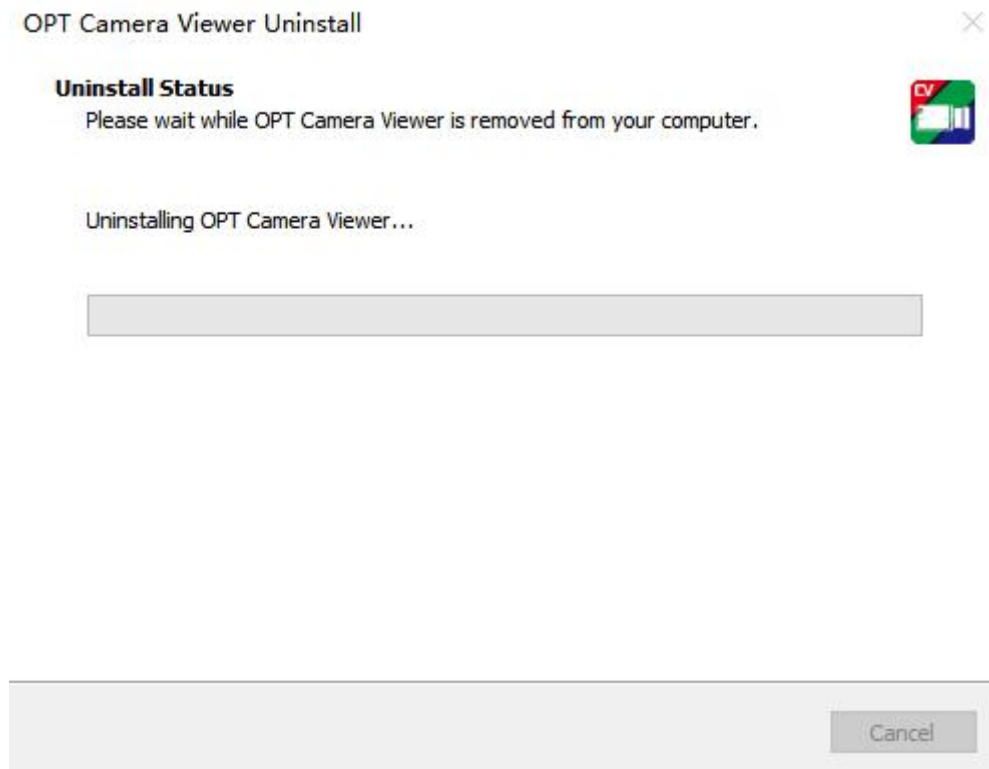

Figure 3-2, Unloading window
3. Enter the unloading installation window as shown in Figure 3-2, waiting for uninstall (if the driver has not been installed before, steps 2 and 3 are required)